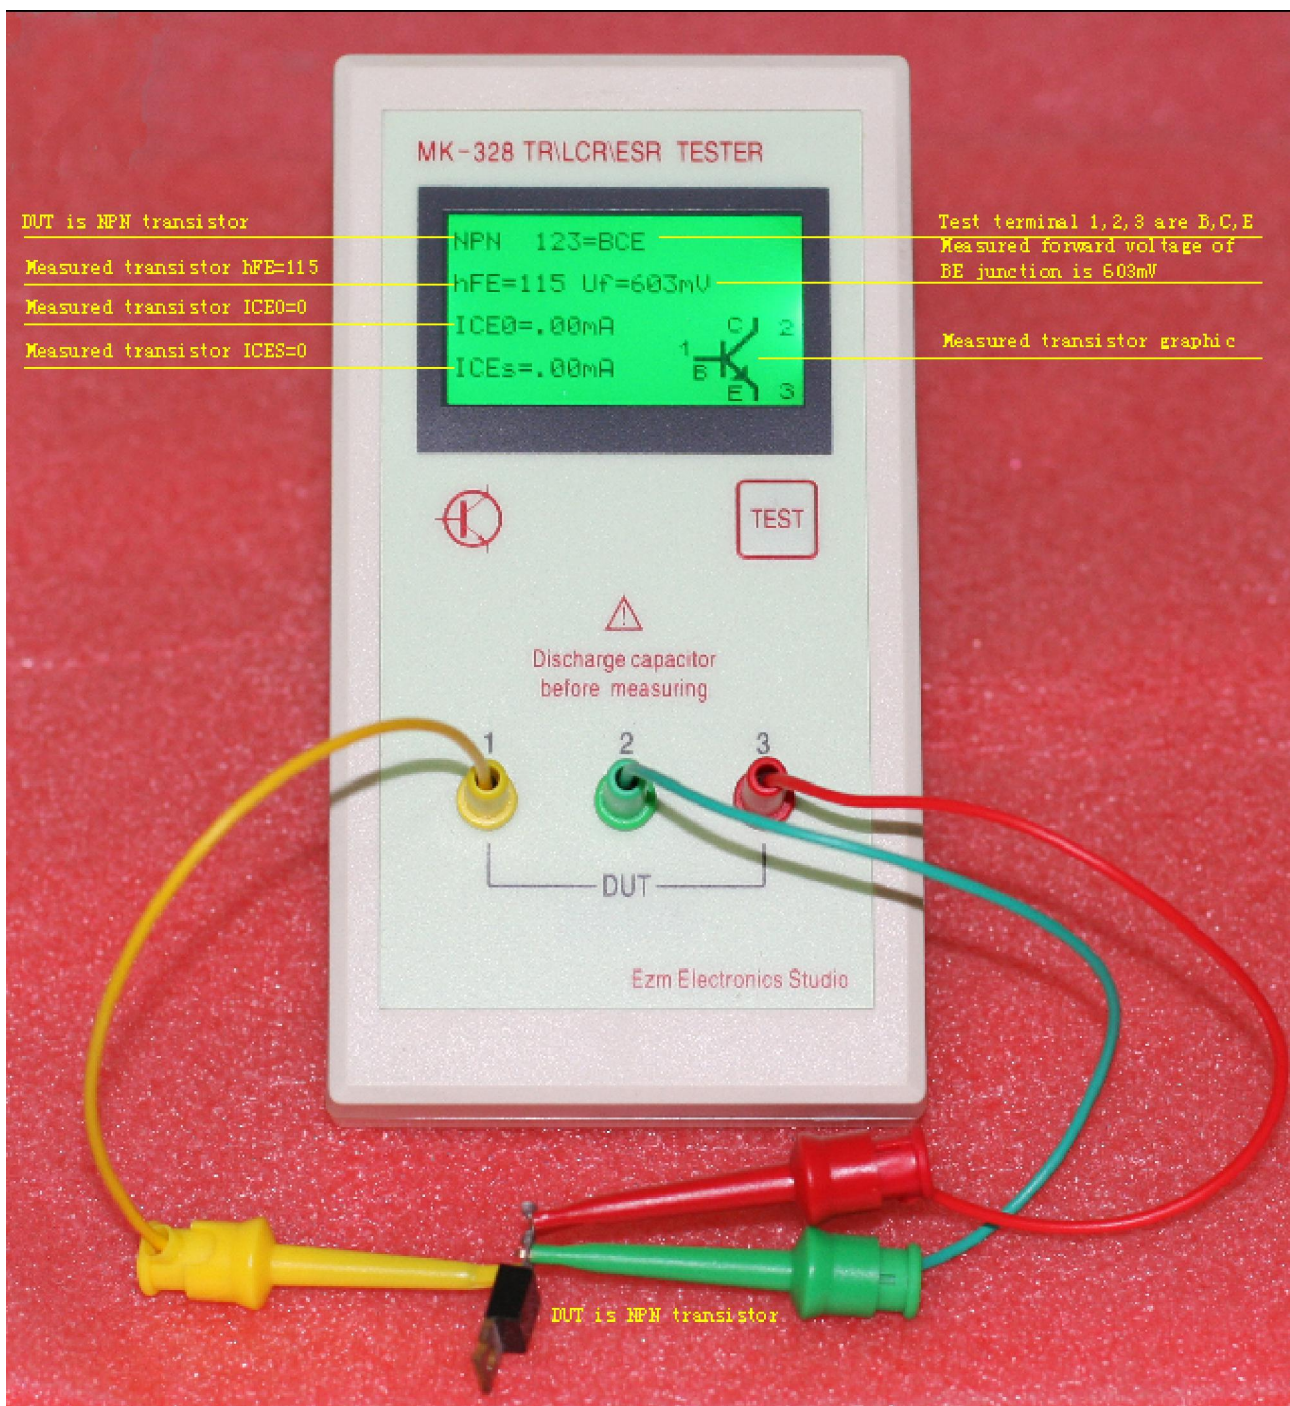

Figure 4: Test Transistor with Test Clips
3.1 Clips: Three clips can be used for any non-SMD devices, you can hook up the clips any way round, the meter will identify and display the pinout vs. the clip numbers on the screen. Figure 4 shows an example for a medium-power NPN transistor test.